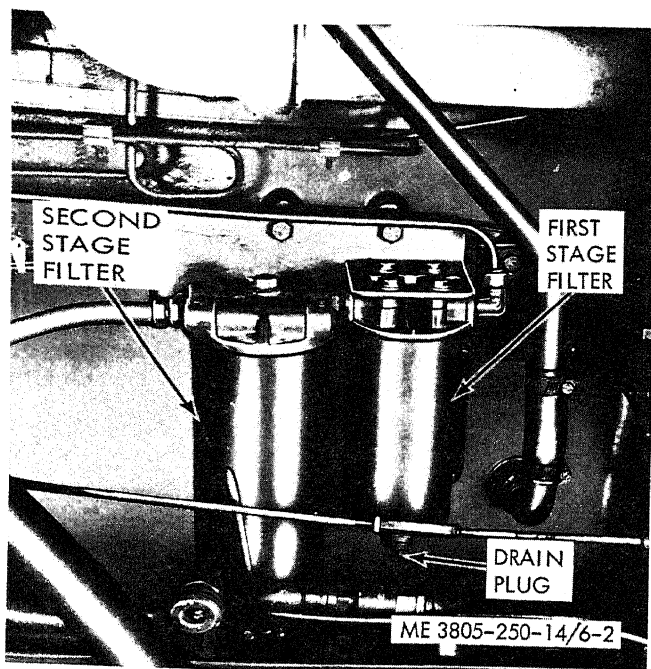

Figure 6-2. Draining fuel filters.
- (3) Close the shutoff valve at the electric fuel pump. Remove the drain plug from the first stage filter and drain the filters (fig. 6-2).